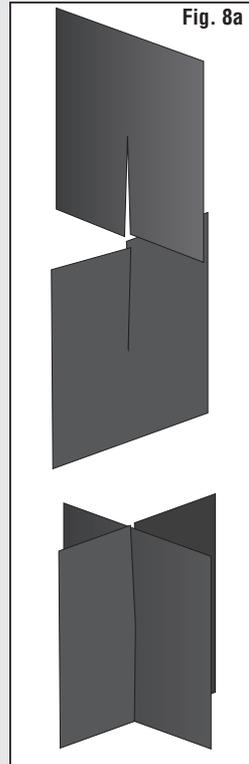

Fig. 8a
- Assemble Blackout Paper as shown 2x (Fig. 8a).